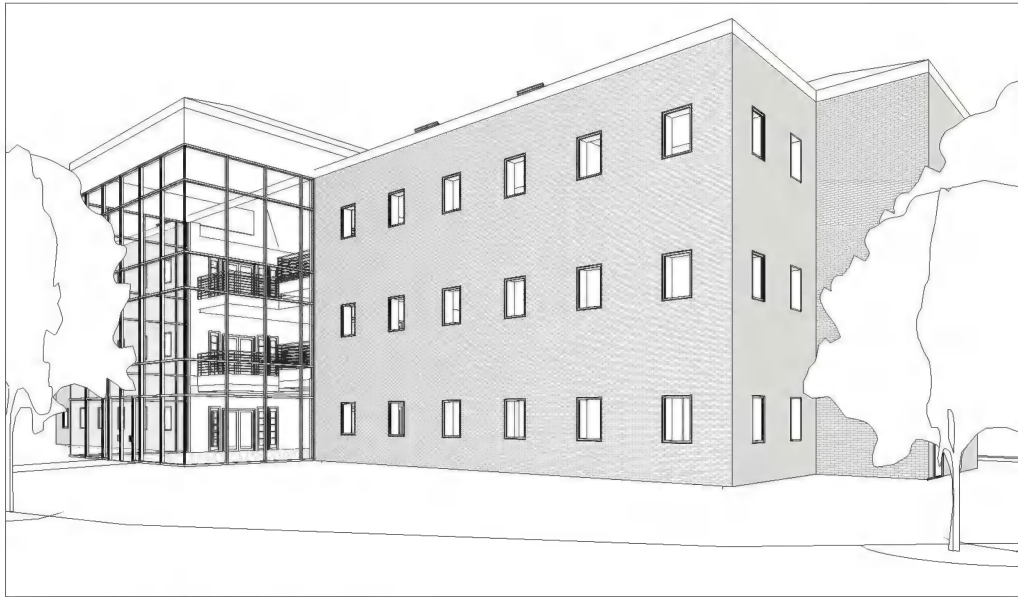

FIGURE 13-2.16 3D View 1 – with trees
35. Adjust the trees in plan view, reviewing the effects in the 3D View 1 view, so your 3D view is similar to Figure 13-2.16.